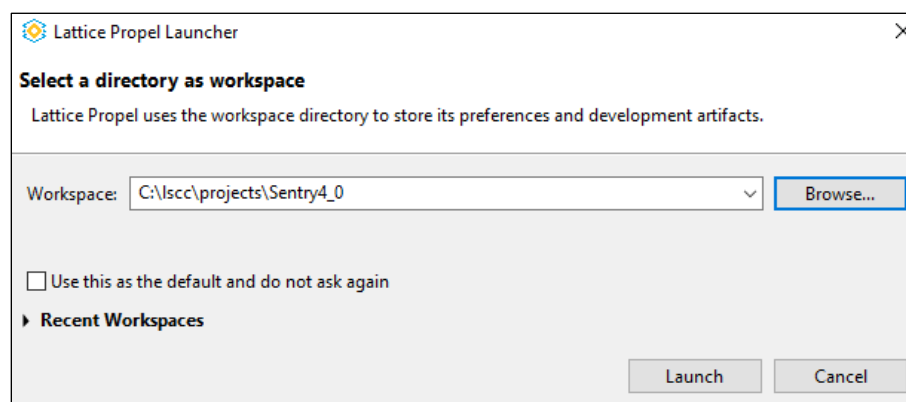

Figure 4.17. Lattice Propel Launcher – Select Directory for Creating SoC and C Project
2. In the Lattice Propel Launcher dialog box, click **Browse** and navigate to the directory created for the SoC and C projects in the Create SoC Project in Lattice Propel Builder section, step 1 (Figure 4.17).